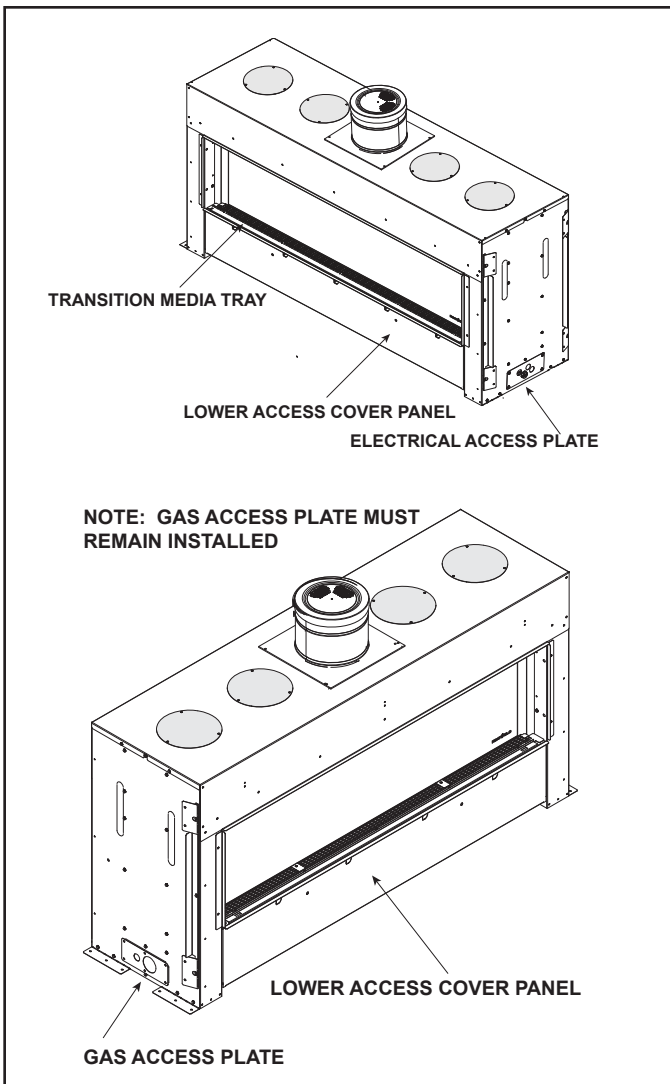

Figure 9.2. Gas Service Access
**IMPORTANT NOTE:** The lower access cover panel is removable if finishing materials are not installed. See Figure 9.2. If finishing materials are installed, lift the transition media tray out of glass frame bracket to access valve cavity.